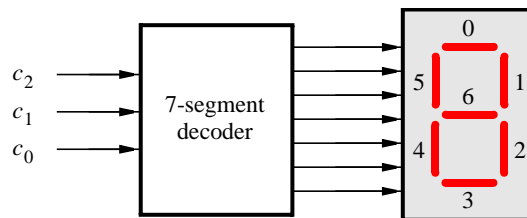

Figure 6. A 7-segment decoder.
Figure 6 shows a 7-segment decoder module that has the three-bit input $c_2c_1c_0$. This decoder produces seven outputs that are used to display a character on a 7-segment display. Table 1 lists the characters that should be displayed for each valuation of $c_2c_1c_0$. To keep the design simple, only four characters are included in the table (plus the 'blank' character, which is selected for codes 100 – 111).
2. Create a VHDL entity for the 7-segment decoder. Connect the $c_2c_1c_0$ inputs to switches SW_{2-0} , and connect the outputs of the decoder to the $HEX0$ display on the DE2 board. The segments in this display are called $HEX0_0, HEX0_1, \dots, HEX0_6$, corresponding to Figure 6. You should declare the 7-bit port